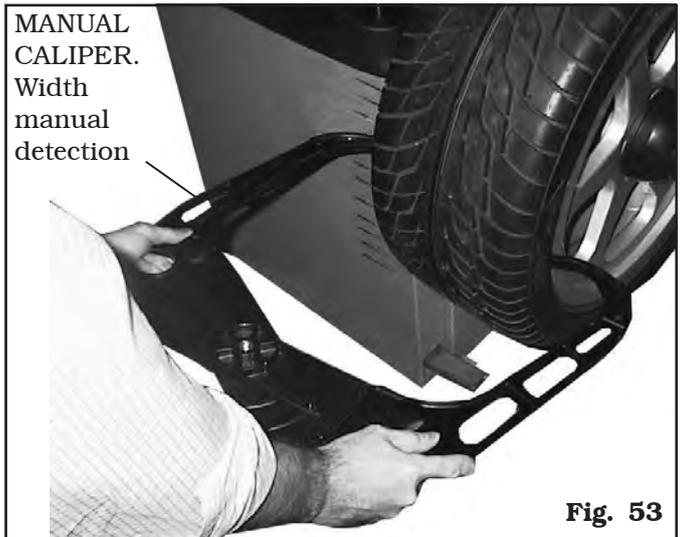

Fig. 53
- width value detection with manual caliper (width) (see **Fig. 53**).